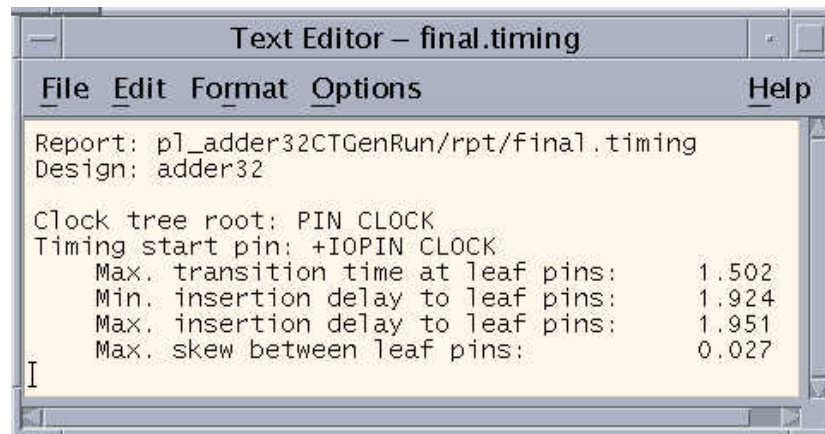

Figure 7-31 Timing report.
6. Click on the **Timing** button to check the clock timing, and the results is shown in figure 7-31. User may also view other reports by clicking on the rest buttons.